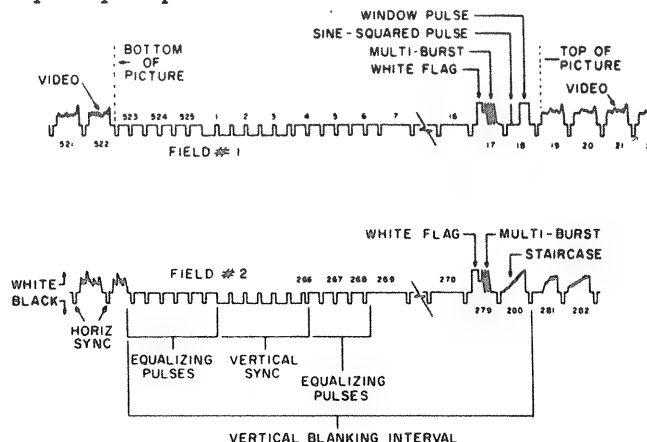
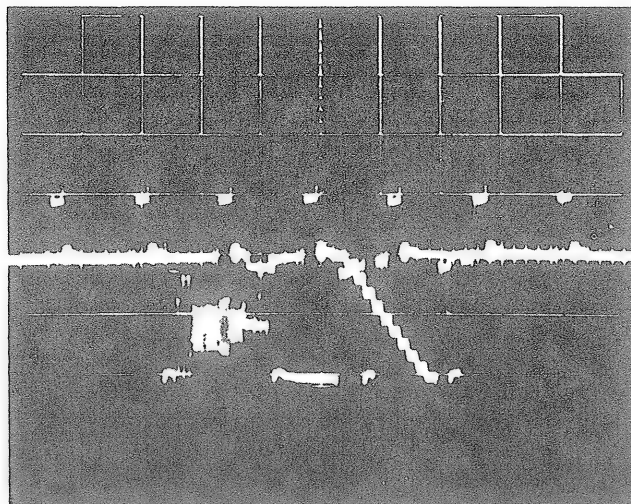

Figure 23. Vertical Blanking Interval Showing VITS Information
Figure 24. VITS as Seen on Oscilloscope, Single-Trace Operation
- Set the SWEEP TIME/CM control to the .1ms/CM position. This expands the display by increasing the sweep speed. The VITS information will appear toward the right hand portion of the expanded waveform displays. The waveform information on each trace may appear as shown in the drawing of Figure 23. Because there is no
8. The waveform should be similar to that shown in Figure 24. For the oscilloscope display, each vertical sync pulse starts a new sweep. This causes line 17 and line 279 (multi-burst) to be superimposed, as are lines 18 and 280. The multi-burst signals are identical which reinforces the trace. However, lines 18 and 280 are not identical and both signals are superimposed over each other.
9. The presentation of the preceding paragraphs (Figure 24) is the limit of observation possible with a single-trace oscilloscope. With this oscilloscope, however, a single field VITS presentation can be obtained by placing the MODE switch in the ALT. position. This causes the Channel 2 information to be displayed on alternate sweeps, as are the Field #1 and Field #2 VITS. Because there is no provision for pre-selecting the Field #1 or Field #2 information, either Field #1 or Field #2 (Figure 23) will appear. The multi-burst information in the VITS is the most valuable for troubleshooting television receivers and, because it is present on both Field #1 and Field #2 VITS, either can be used for troubleshooting and signal tracing.